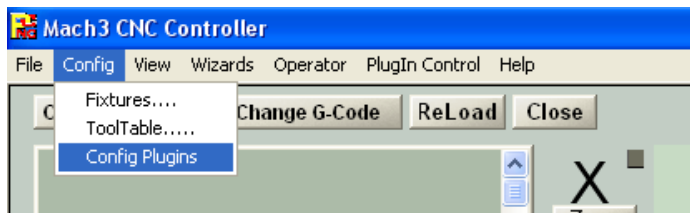

Figure 2. Config Plugins Menu in Mach3
2. Choose *Config*→*Config Plugins* from the pulldown menu (Figure 2).